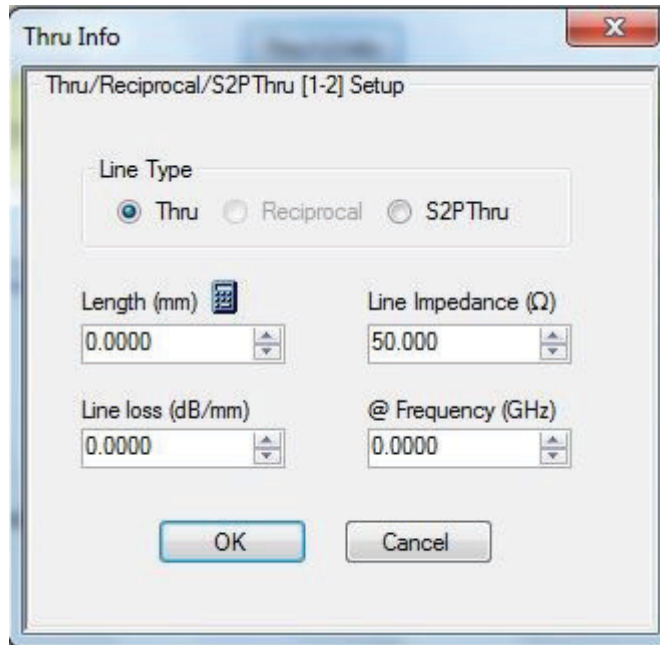

Figure 3-45. THRU INFO Dialog
7. Click on Thru1-2 Info and the screen appears (see Figure 3-45) and verify Length (mm), Line loss (dB/mm), and @Frequency (GHz) are set to 0.000.